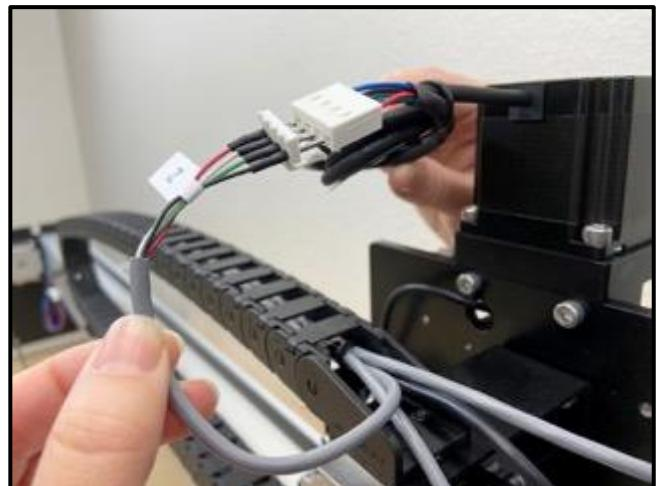

Figure 8-10
1. Connect the black Z-motor leads to the gray 4-pin extension cable labeled "Z." See *Figure 8-10*.